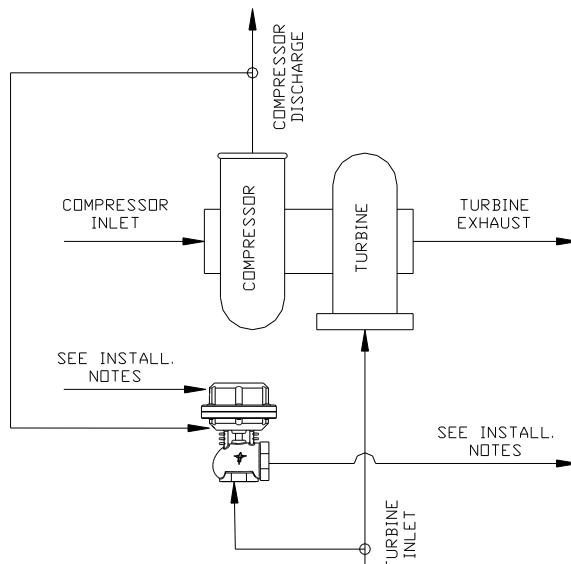

Figure 1:
1. The **Evolution Wastegate** may be located anywhere between the engine exhaust and the turbine inlet of the turbocharger (refer to Figure 1), preferably near the header collector, just before the turbine housing. The wastegate may be mounted in any orientation that is convenient, either directly on a cast exhaust manifold (with integral mounting flange), or on a flange that has been welded to a fabricated manifold. In the case of a welded flange, a minimum flange thickness of 3/8" is recommended to minimize flange warpage. When choosing the location of the wastegate, careful consideration should be taken to insure that the actuator section (top half of wastegate) is NOT exposed to extreme heat. If selected location places the actuator section close to a severe heat source, the use of a heat shield is recommended.
4. Refer to the sensing line schematic shown in Figure 1. A minimum sensing line size of 1/8" ID is recommended for proper response. The wastegate actuator ports are 1/8" NPT pipe thread. Use Teflon tape on all fitting threads. Sensing line material should be suitable for automotive under-hood environment, and compatible with gasoline vapor. Care should be taken in routing sensing lines to avoid damage from any sharp edges or excessive temperatures.